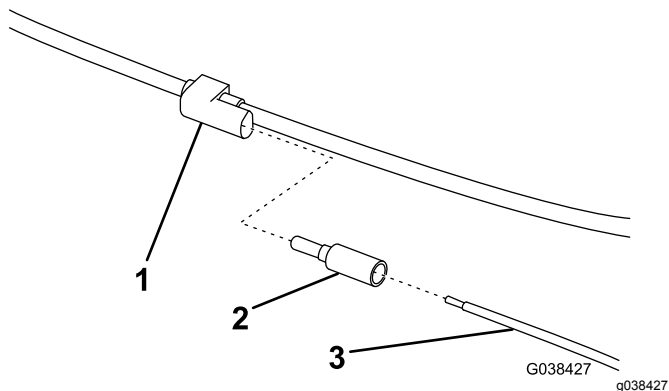

Figure 12
12. Connect the black/red wire to a keyed 12 V+ ignition source (Figure 12).